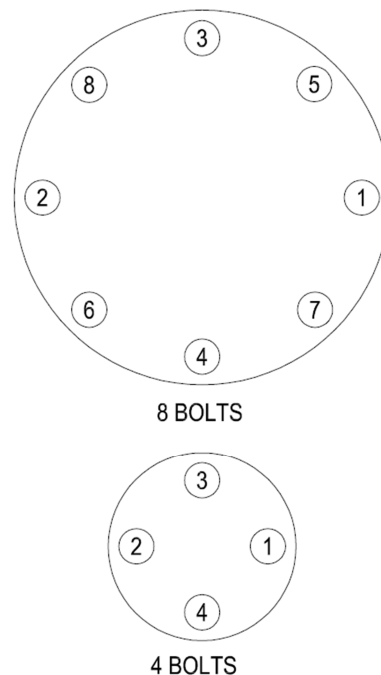

Figure 2 - Bolt Tightening Sequence
5. Using the crisscross pattern shown in Figure 2, apply torque in 4 steps of 25% increments. For example, if the torque required from Table 1 is 100 ft-lb, the torque should be applied in 25 ft/lb increments. Apply 25 ft-lb to each nut, then 50 ft-lb, then 75 ft-lb, etc.